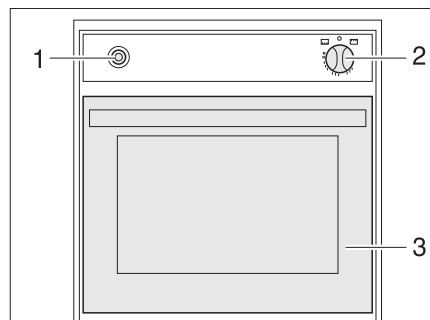

Fig. 343 Gas oven (Spinflo)
- Fully open the oven flap (Fig. 343,3).
- Lightly press control knob (Fig. 343,2) and set to "Oven" (oven) or "Grill" (grill).
- Press the control knob (Fig. 343,2) and hold it down for 5 to 10 seconds. Gas will stream into the burner.
- Press the ignition switch (Fig. 343,1) repeatedly until there is a flame.
- Turn the control knob (Fig. 343,2) to "O". The flame fades.